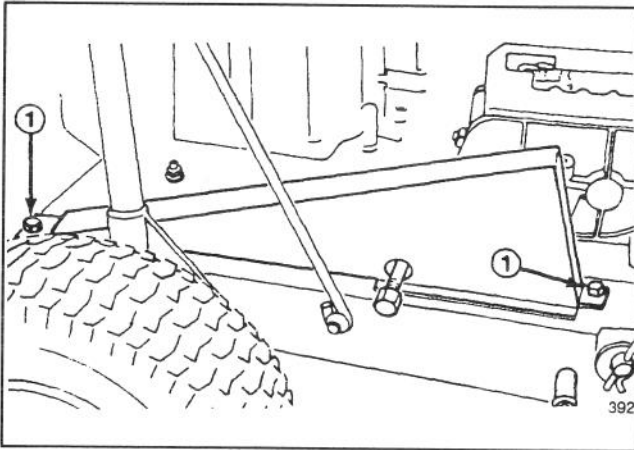

Figure 21
1. Remove the two screws securing the chain cover to the rider chassis and lift it off (Fig. 21).